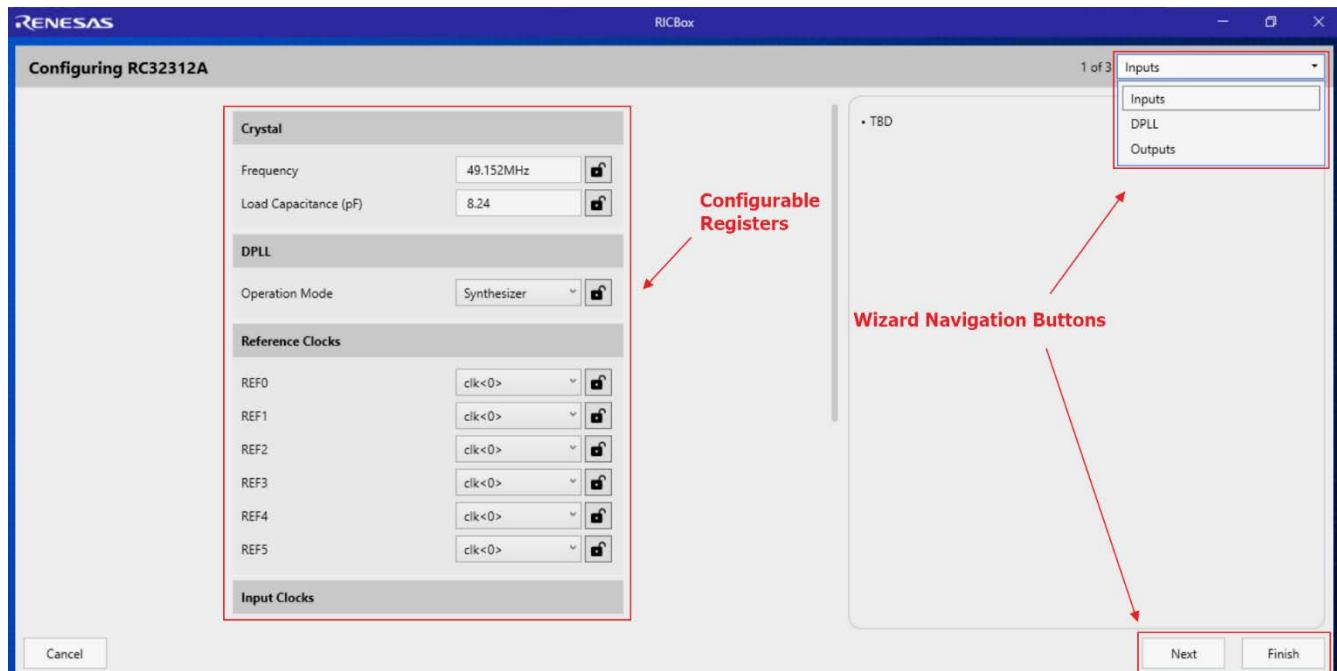

Figure 28. RICBox Wizard Navigation
5. Follow the on-screen wizard (see Figure 28) to configure the device for general evaluation starting from "Inputs", then "DPLL", and finally "Outputs".